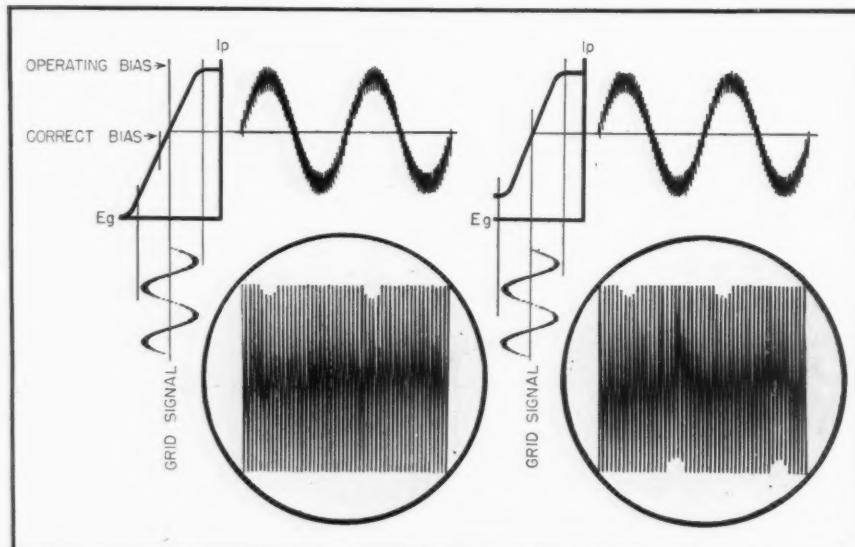

Fig. 5.  $I_p E_g$  curves, and type of indications resulting from single-tube amplifier stage with (A) insufficient bias, and (B), right, excessive input signal.
Fig. 7. FM calibrator components. Left to right are the oscillator-discriminator unit, audio amplifier, and power supply. In the foreground is the push-pull FM condenser, which is shown in an enlarged view in Fig. 5 (right).
The push-pull FM plates are mounted on the cutter so that the stylus is centered between them. Figure 5 shows the push-pull FM capacitor unit consisting of a  $\frac{1}{8}$ " thick Bakelite bracket in
To analyze the results obtained from this method refer to Figs. 5 and 6. In Fig. 5(A) is shown the test signal applied to the grid of a single-tube amplifier stage operating at an insufficient grid bias. As the amplitude of the test signal is increased, the positive swings of the plate current are flattened out ahead of the negative swings, and the high-frequency fringe of the test signal is clipped at certain points. When the filtered carrier is viewed on the oscilloscope, the effect of the clipping is shown by notches in one side of the pattern. Thus the presence of two notches on one side of the pattern is an indication of an incorrect bias condition in a single-tube stage. Note that the sweep circuit of the oscilloscope is adjusted so that it shows two complete cycles of the low-frequency signal.
In (B) of Fig. 5, the test signal is shown applied to a tube which is operating at the correct grid bias, but the amplitude of the signal is greater than the linear portion of the  $E_g I_p$  curve of
When making tests of push-pull stages, the patterns obtained from insufficient grid bias conditions are shown in Fig. 6(A) which shows the effect of the test signal applied to two push-pull tubes. The positive peak of the wave is clipped by one tube, while the negative peak (which is the positive peak to the opposite tube) is also clipped. The plate-current curves of the two tubes are shown, both having the tops clipped. However, due to the push-pull connection, one of these curves is inverted, so that four notches appear in the pattern, resembling that of Fig. 5(B). When a push-pull stage is operated beyond its maximum permissible grid swing, the pattern will exhibit eight notches, four on each side as in Fig. 6(B).